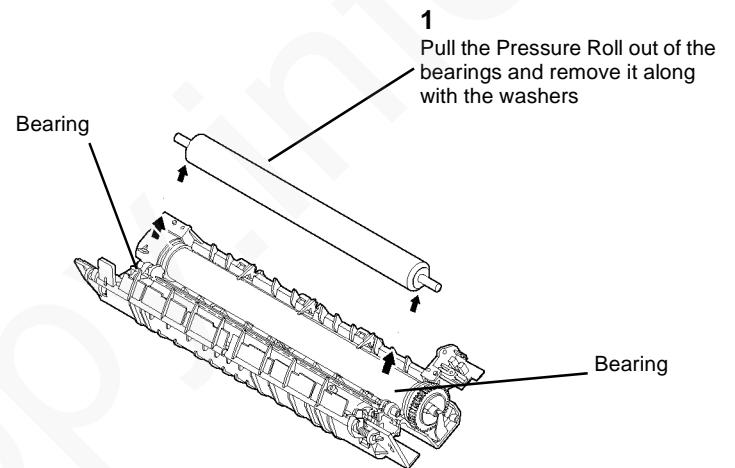

Figure 3 Removing the Pressure Roll
7. (Figure 3): Remove the Pressure Roll.